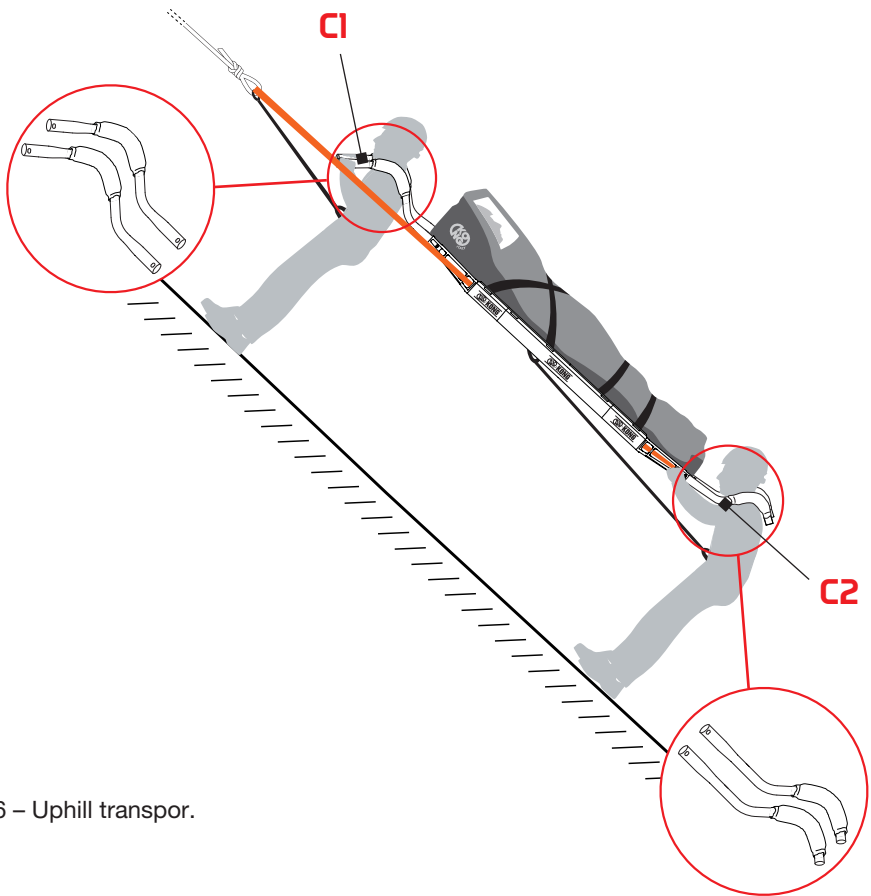

Fig. 26 – Uphill transpor.
- b) loosen the transversal and longitudinal belts (fig. 26) and remove them from the through elements;